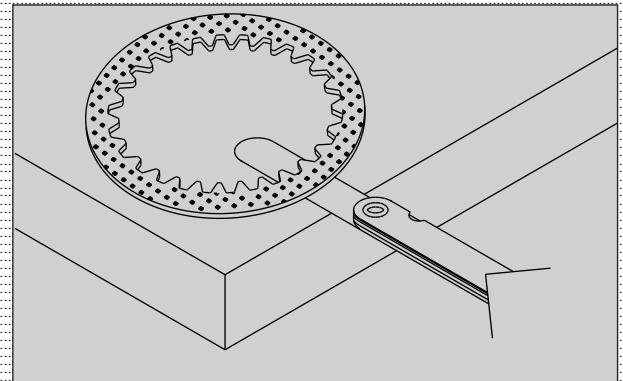

Fig. 3.17
- Inspect plate clutch driven distortion using a feeler gauge and surface plate as shown in the figure. (Fig. 3.17)